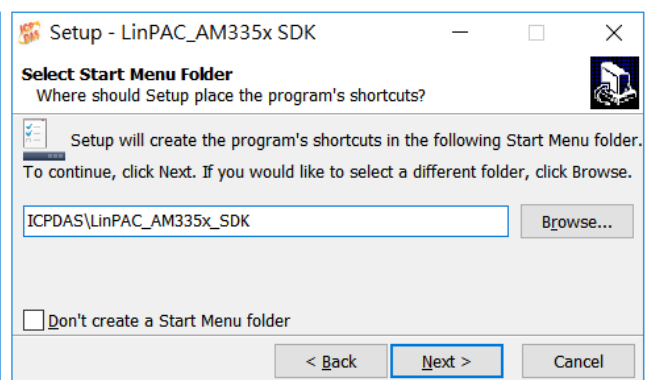

Figure 4.2.2-4.
- ❑ The LinPAC_AM335x SDK files will be extracted and installed and a progress bar will be displayed to indicate the status, refer to Figure 4.2.2-5.